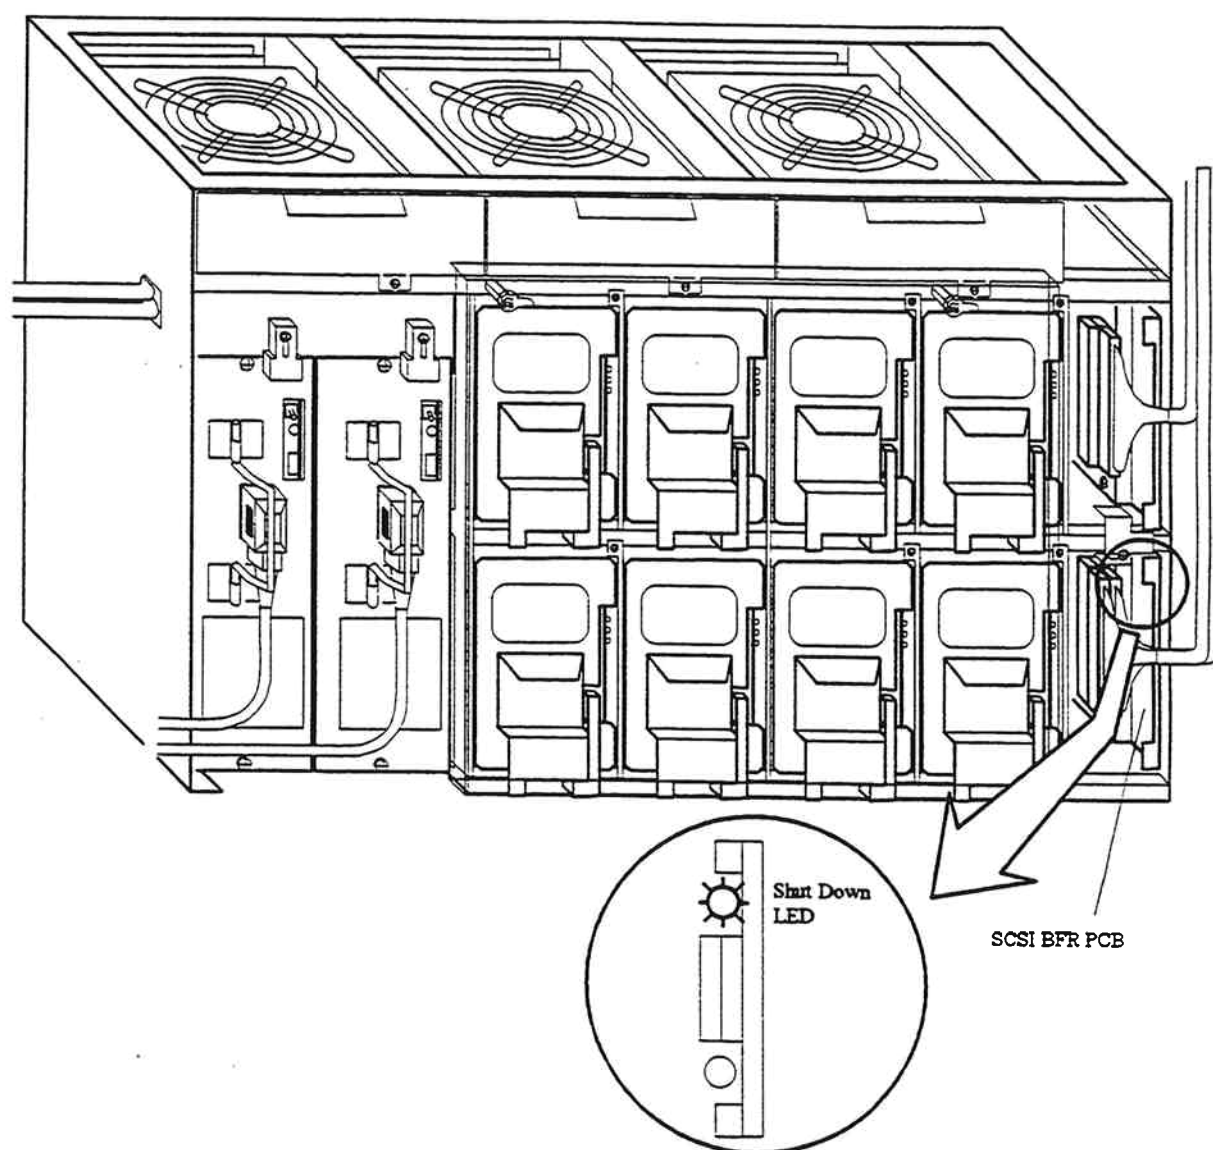

Fig. 3.4.3.2.3-4 Confirmation of the Shut Down LED Light
5. Disconnect the SCSI interface cables from the SCSI BFR PCBs in the first DKU chassis referring to figures 3.4.3.2.3-5 and 3.4.3.2.3-6.